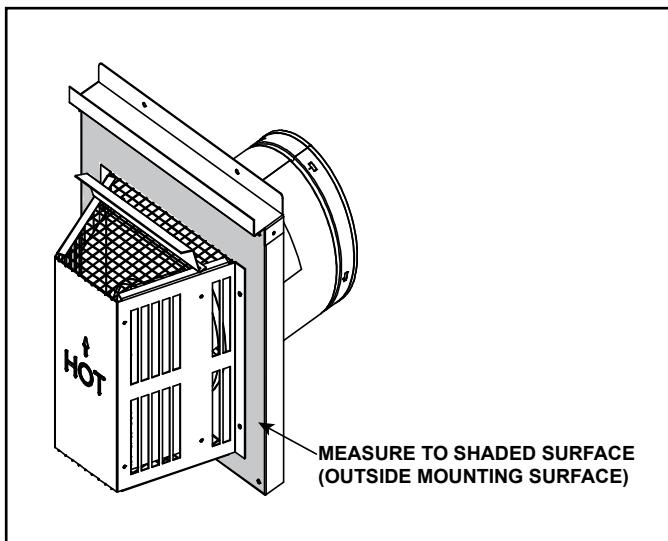

Figure 4.6 Measure to Outside Mounting Surface
- Horizontal terminations are measured to the outside mounting surface (flange or termination cap). See Figure 4.6.